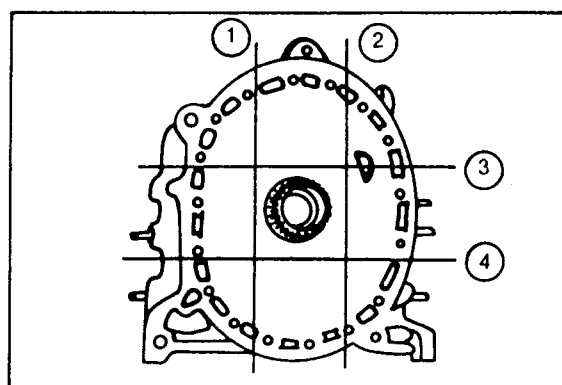

Figure 1
- (1) Surface flatness (side housing distortion).
- b) Check the surface in the four locations shown in Figure 1. The limit for distortion is 0.04 mm, and if this limit is exceeded at any point, the side housing must be replaced.